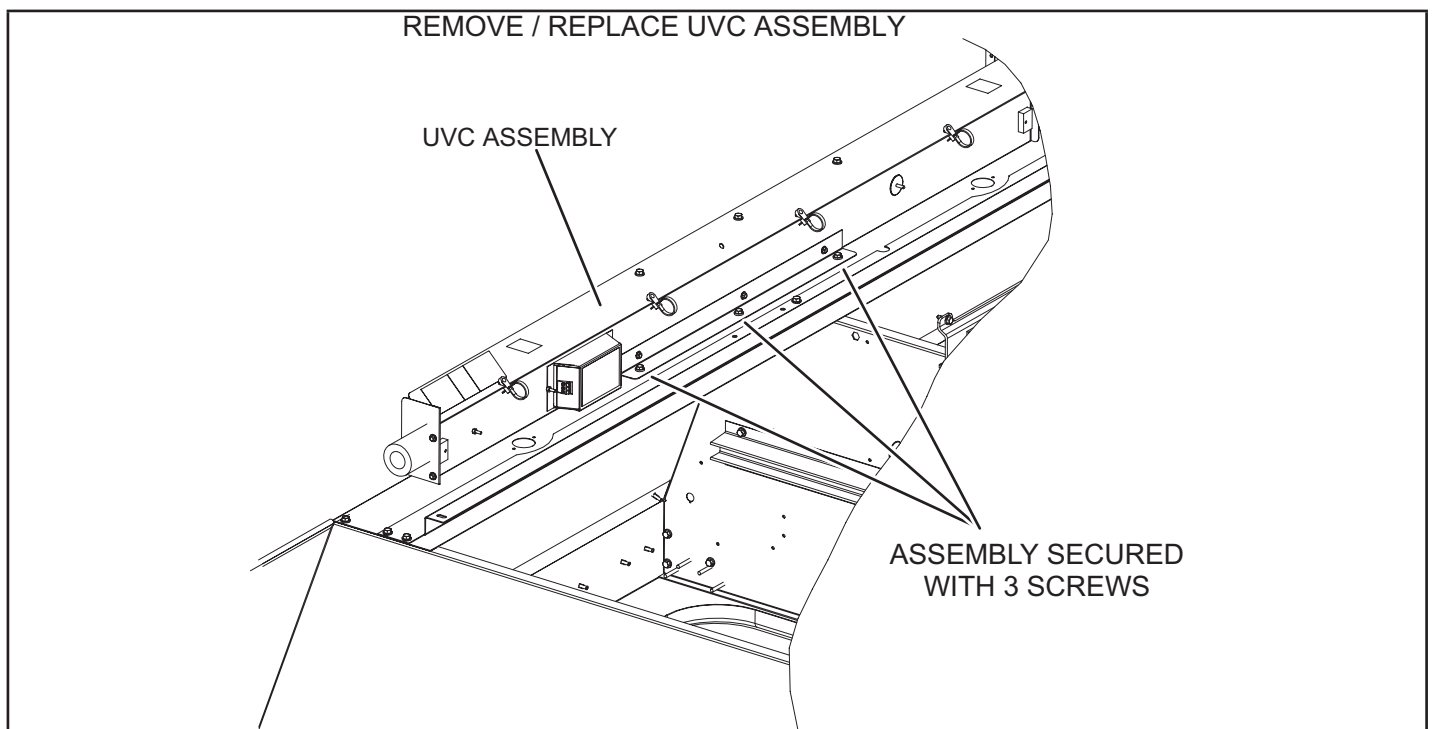

FIGURE 52
- 5 - Remove and retain the (3) mounting screws securing the UVC assembly. Carefully remove the complete UVC assembly out through the blower access door. See FIGURE 52.